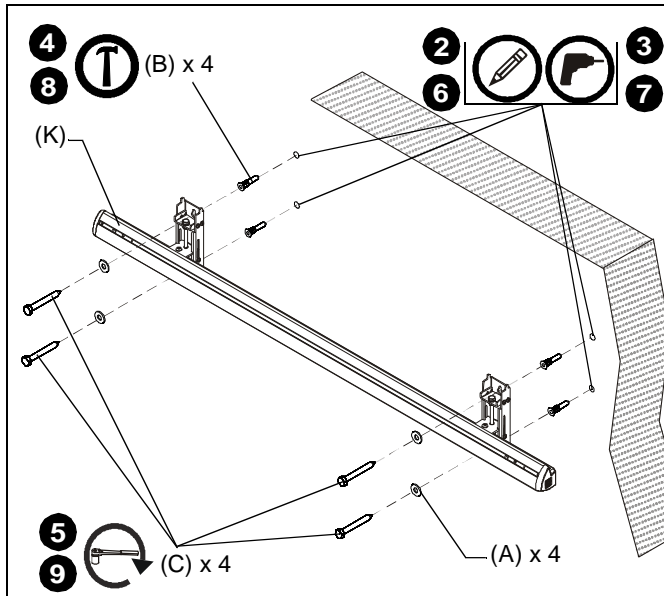

Figure 3
- Using a level, mark the wall above existing chalkboard through top mounting hole in the wall assembly (K). (See Figure 3)
- Drill one 1/4" x 2-3/4" pilot hole at each marking. (See Figure 3)
- Install a toggler (B) into both pilot holes using a hammer. (See Figure 3)
- Use two 1/4-20 x 2-1/2" lag bolts (C) and two 1/4" flat washers (A) to attach wall assembly (K) to anchors in wall. (See Figure 3)
- Mark the wall through the lower mounting hole in the wall assembly (K). (See Figure 3)
- Drill one 1/4" x 2-3/4" pilot hole at each marking through lower mounting hole in wall assembly (K). (See Figure 3)